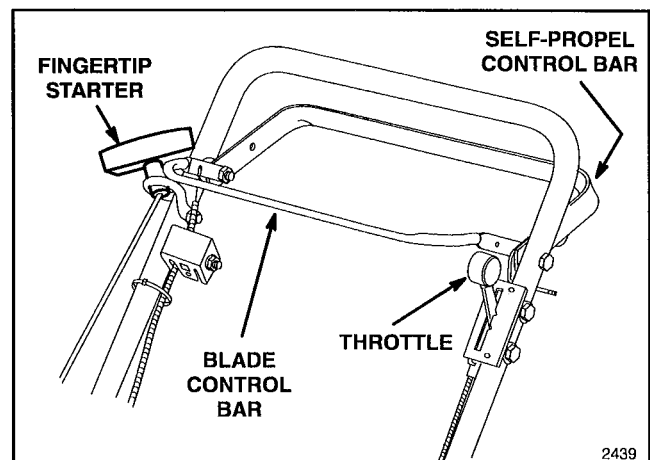
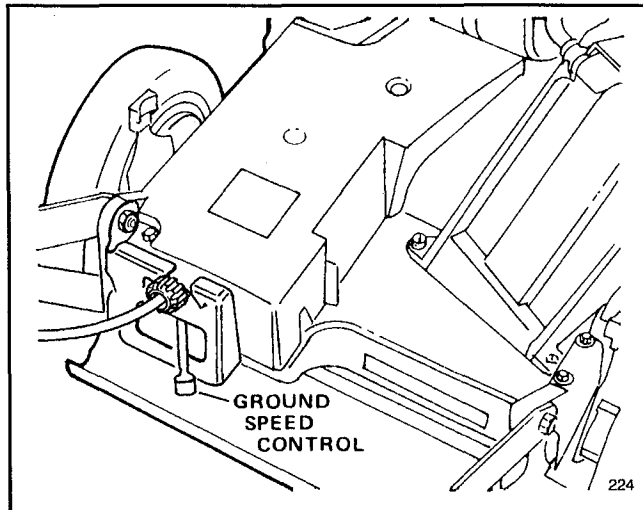

Figure 12
Figure 13
1. CONTROLS—Throttle, blade control bar, self-propel control bar and fingertip starter are on upper handle (Fig. 12). Ground speed control is located at rear of belt cover (Fig. 13).
4. Move ground speed control to desired speed selection (Fig. 13).
5. TRACTION OPERATION—Squeeze self-propel control bar against handle to drive. Ground speed varies, depending on space between control bar and handle (Fig. 12).